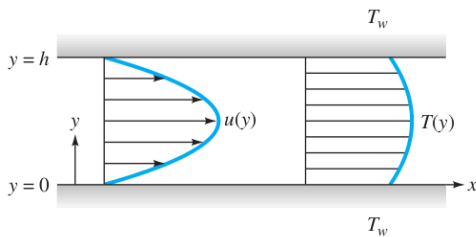

Fig. 4.11
4.11 As mentioned in Sec. 4.10, the velocity profile for laminar flow between two plates, as in Fig. 4.11, is